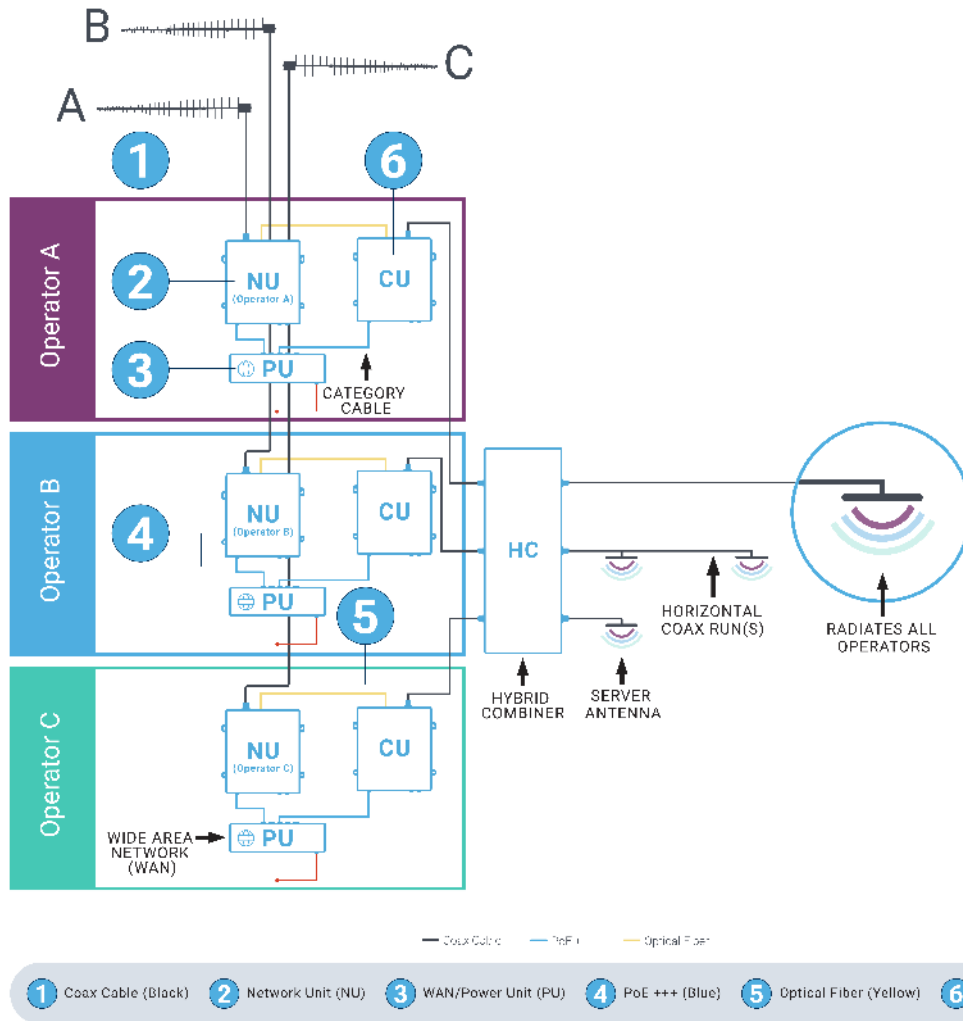

Figure 13: Multi-Operator Setup with Hybrid Combiner – Signals from three operators combined and sent to a shared antenna.
- 1. Hybrid Combiner Method** – In this setup, signals from multiple CUs are combined through a hybrid combiner and then distributed to shared server antennas. Figure 13 below shows an example of a three-operator configuration using this method.